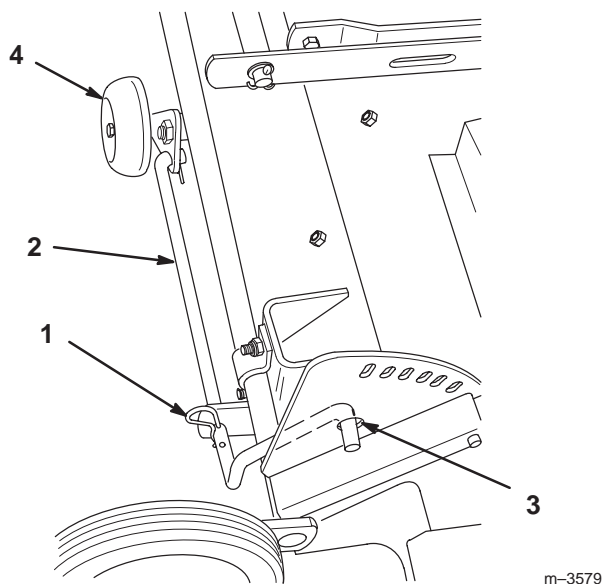

Figure 21
- C. Pull the rod toward the outside of the mower, insert the end of the rod into the hole in the height-of-cut plate, and install the hairpin cotter into the second hole of the wheel rod (Fig. 21).